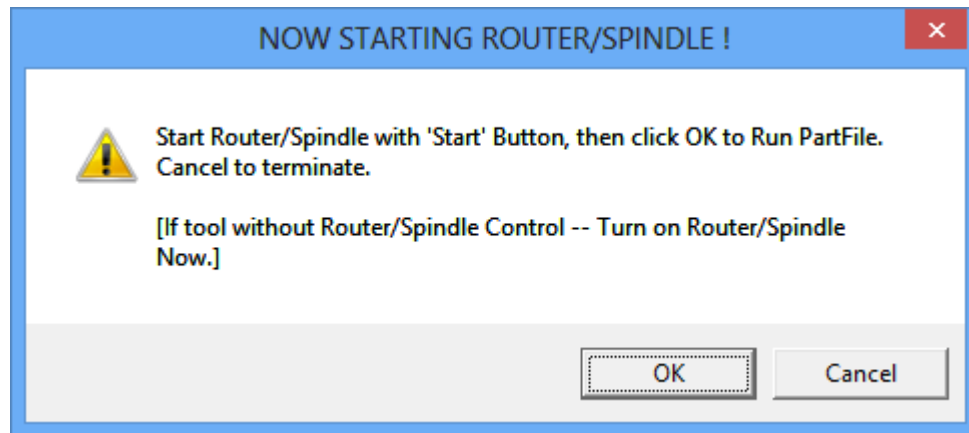

Figure 30: Start Spindle Dialog Box
40. The dialog box in figure 30 asks you to press the **GREEN START** button on the **DONGLE**. If you click on start in figure 31, then your spindle will start spinning. Click **START**.